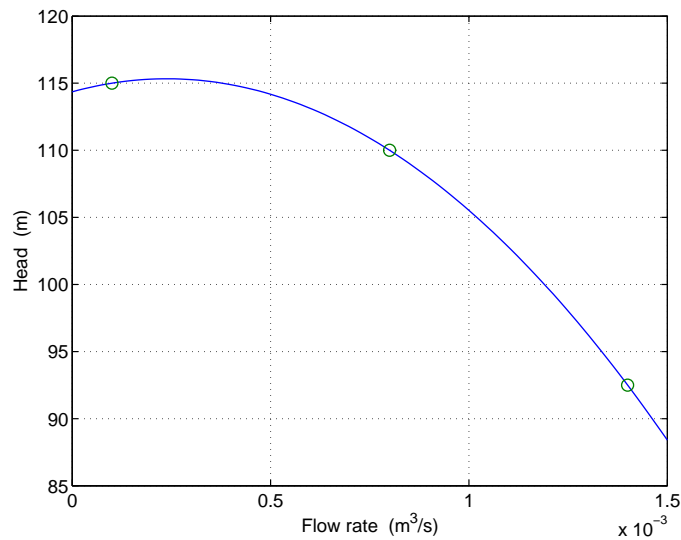

Figure 1: Typical performance curve for a centrifugal pump.
4. Centrifugal pumps are common devices used to move liquid through piping systems. Figure 1 shows a typical *pump curve*, which relates the flow rate, q to the pressure head h . Different pump designs have different pump curves.
To automate design calculations, it is advantageous to have a formula for the pump curve. The $h(q)$ curve shown in Figure 1 appears to be roughly parabolic, so it is reasonable to seek a relationship of the form
These points are shown as open circles in Figure 1. Substituting the (q, h) pairs into the preceding equation results in three equations for the unknown c_i :
- (b) Extend your m-file to plot the interpolant and the original data points on the same axis. In other words, recreate Figure 1. This step requires you to write a one-line formula for computing h from a vector of q values.